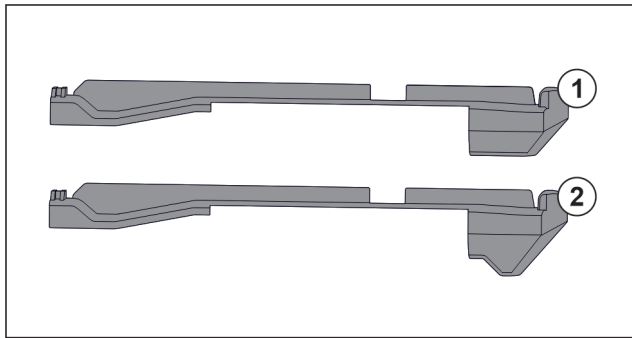

Fig. 195 Comparing attachments
There are two different attachments in the appliance. The attachment above the lowest drawer *Fig. 195 (2)* has a three-cornered edge. All other attachments *Fig. 195 (1)* have a straight edge.
- ▶ Fit attachment *Fig. 195 (2)* with the three-cornered edge above the lowest drawer.
- ▶ Fit attachment *Fig. 195 (1)* with straight edge in all other positions.